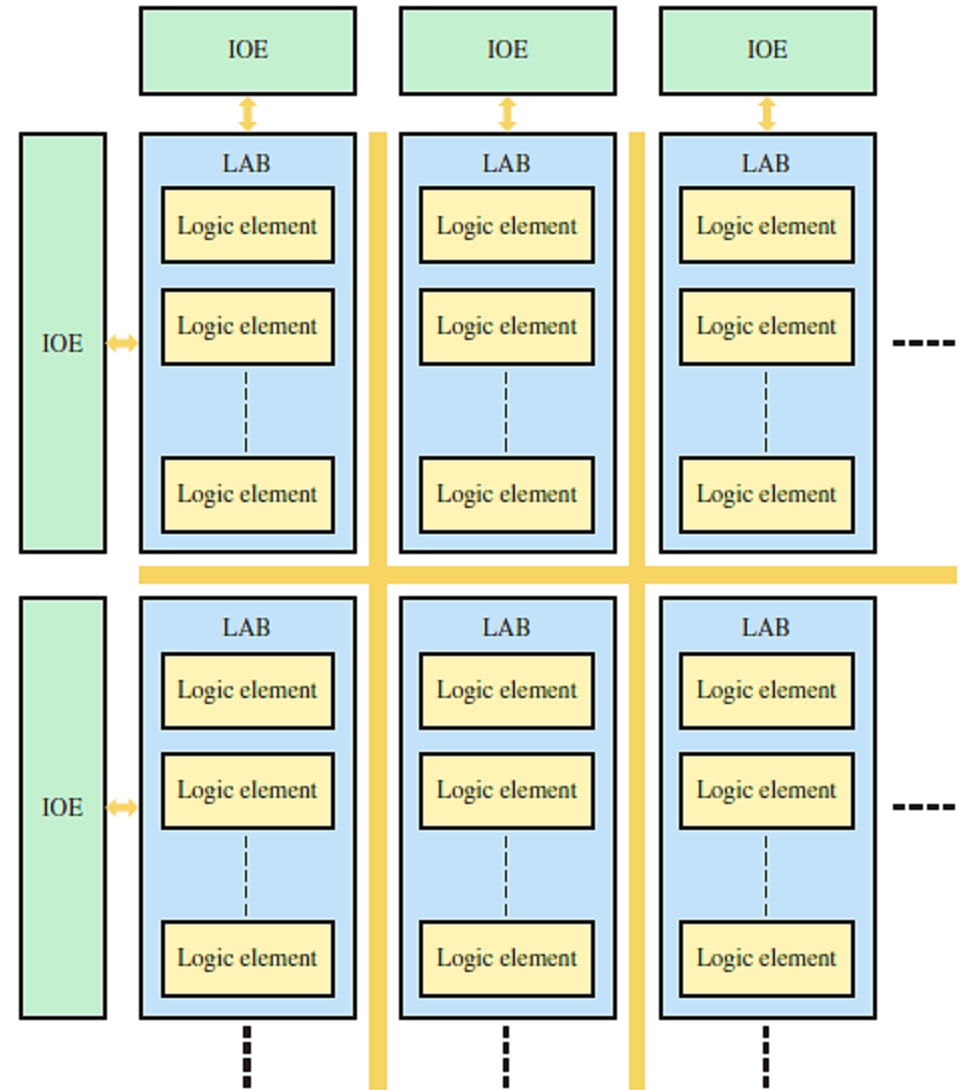

Figure 1 Simplified block diagram of an LUT CPLD.
- ❑ This architecture differs from the classic CPLD previously discussed. As shown by the block diagram in Figure 1, this device contains logic array blocks (LABs) each with multiple **logic elements** (LEs). An LE is the basic logic design unit and is analogous to the macrocell.